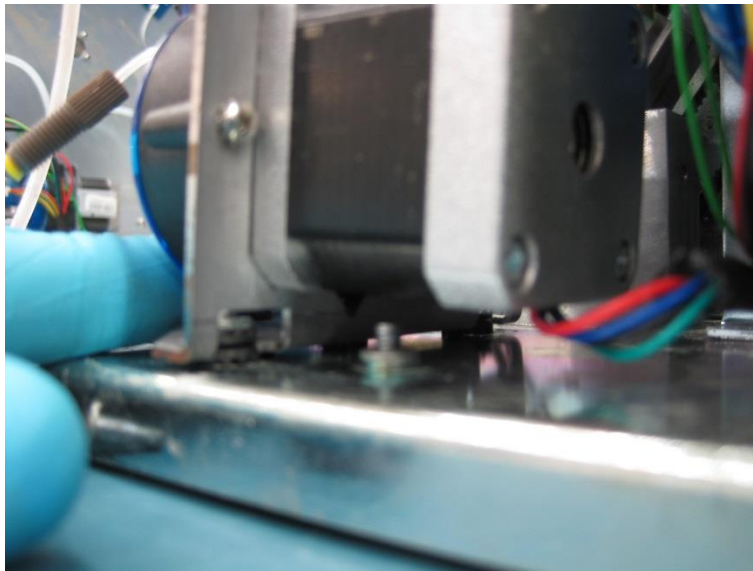

Figure 13
- Slide the Peristaltic pump back into its original position between the two rubber grommets, Figure 13 and secure it with the screw removed in the earlier step.